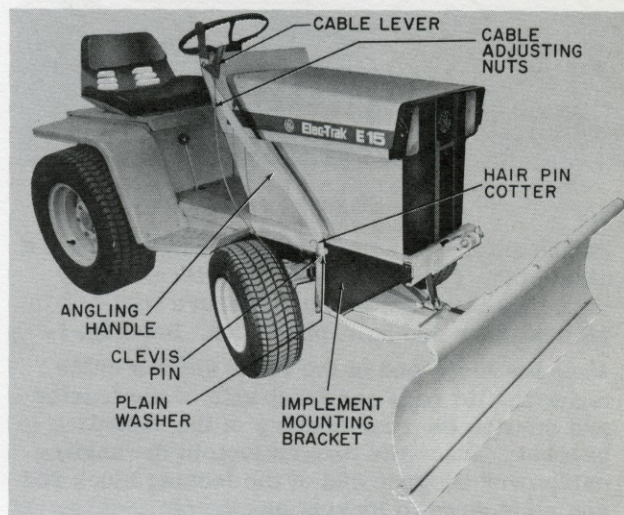

Figure 1
2. Attach angling handle to right mounting bracket clevis pin. (The right side as determined by sitting on the tractor seat.) Secure with 5/8 in. plain washer and hair-pin cotter. See Fig. 1.
NOTE: The cable assembly must be adjusted properly to allow full blade angle locking with the cable lever released and to allow the locking block to clear the pivot plate by 1/8-inch with cable lever depressed. If adjustment is necessary, loosen the cable adjusting nuts (see Fig. 1), and reposition the cable sheath so the 1/8-inch clearance is obtained with the lever depressed. Tighten the nuts with the cable in this position.
Wear Blade – For normal use of the Snow/Dozer Blade, the wear blade angle is set at the same angle as the back blade as shown in Figure 1. If the working area is very rough, the cutting action of the wear blade should be reduced by loosening the four bolts on the bottom back side and moving the wear blade slightly forward. When retightened in this position, the cutting is reduced. Alternatively, if more aggressive cutting is desired, loosen the four bolts and move the wear blade rearward.